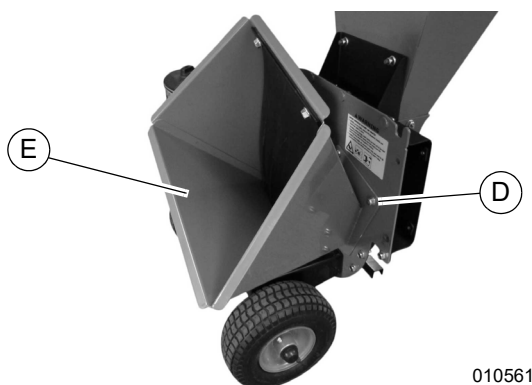

Figure 4-5. Replacing Chipper Knife (2 of 4)
3. See Figure 4-5. Use a 1/2" wrench to remove the three locknuts (D) securing chipper chute (E) and lift chipper chute off the machine.